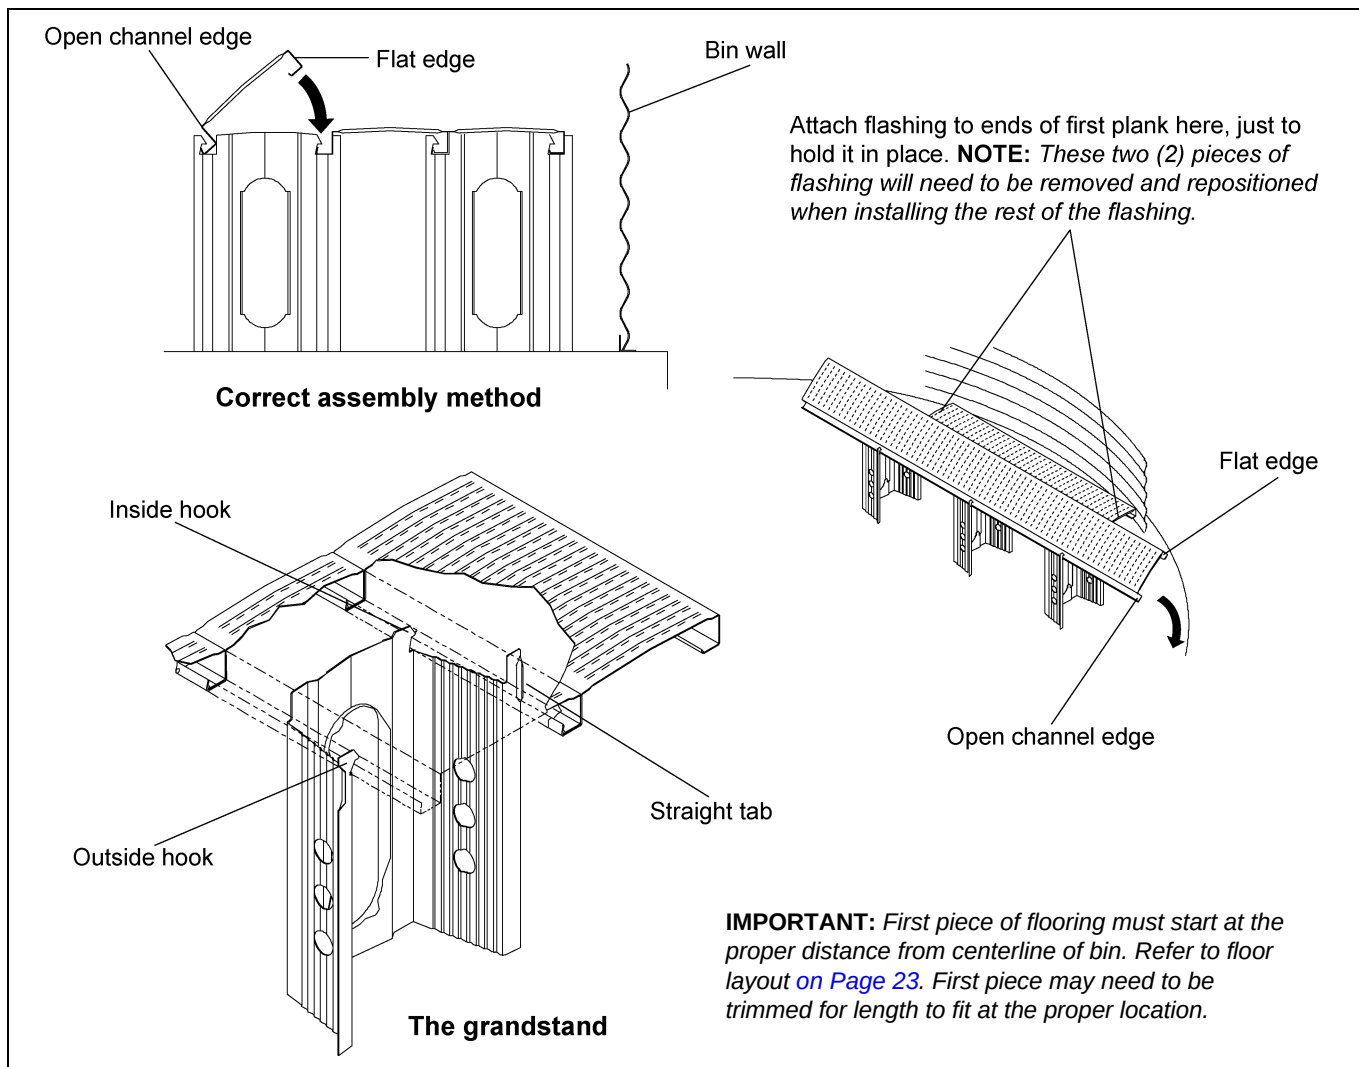
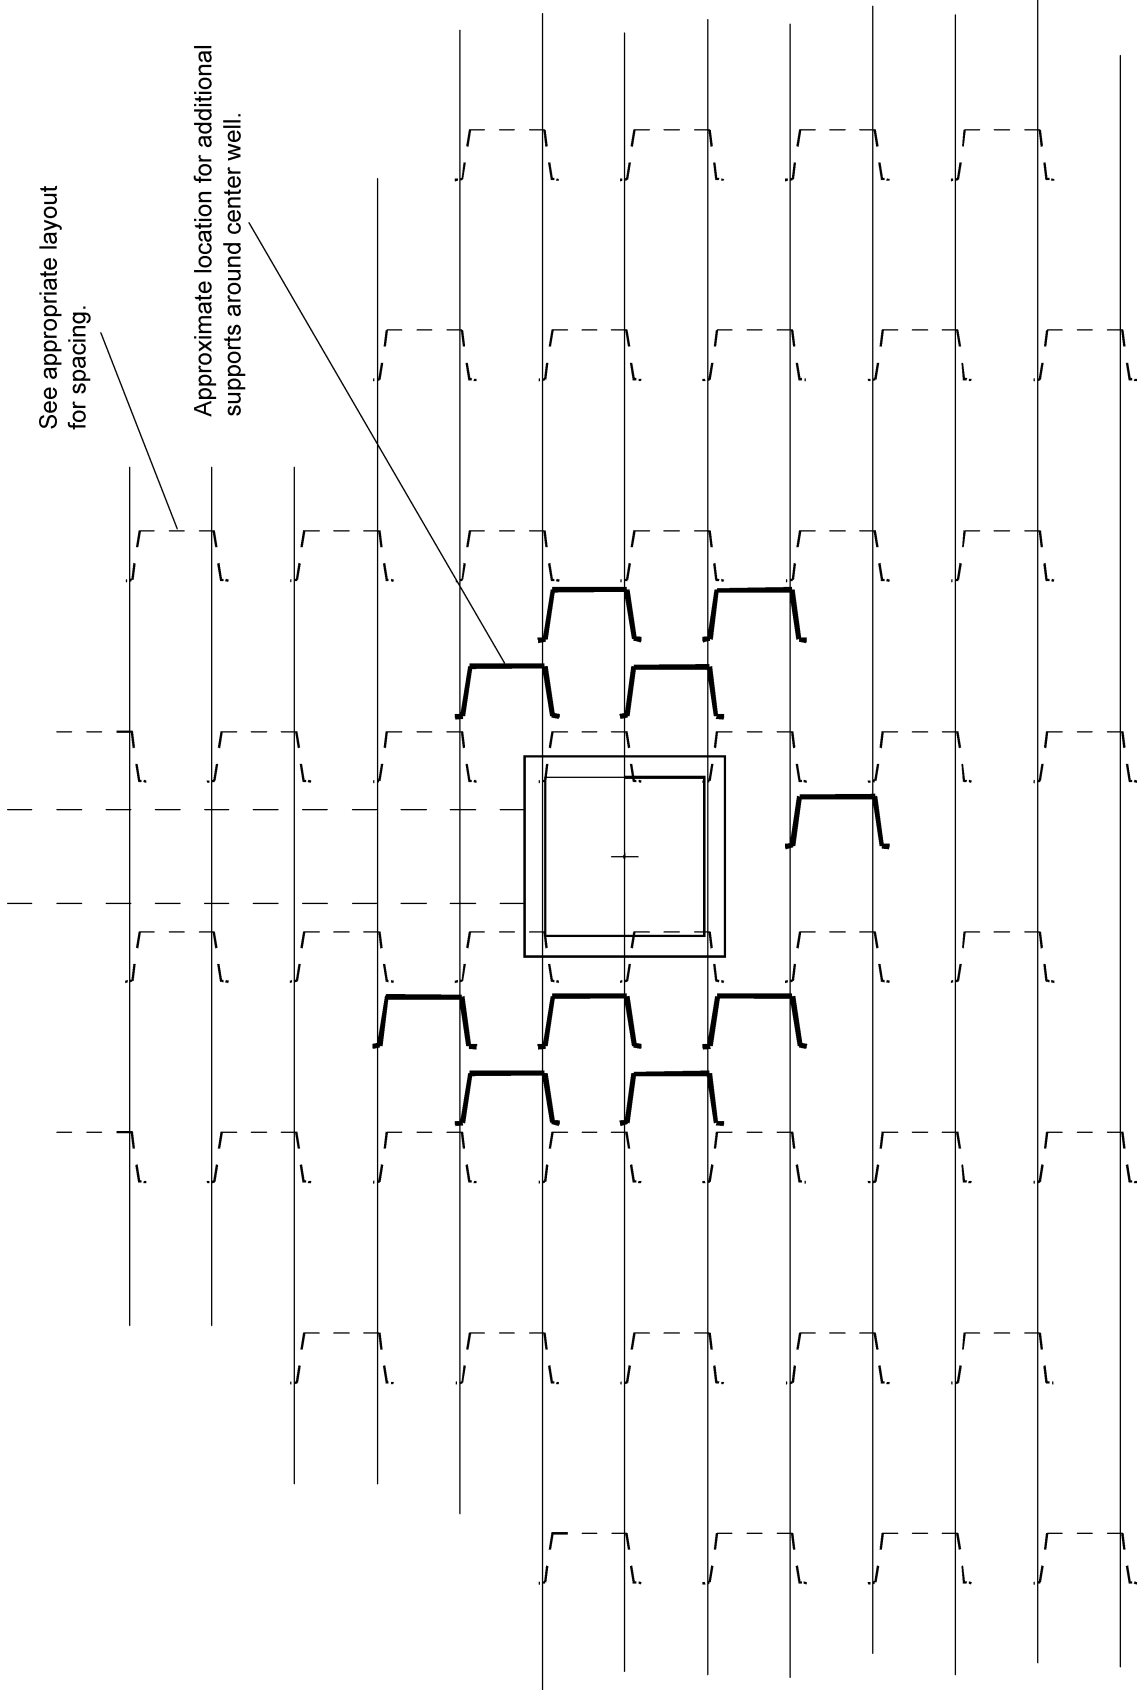

Figure 4C
Figure 6A
5. **POSITION THE NEXT ROW OF SUPPORTS ACCORDING TO THE CHALK LINES** and support layout. The straight tab should “snap” under the first (previous) floor piece. After the supports in the row are correctly positioned, install the next floor piece by hooking the open channel edge under the outside hooks of the floor supports. Push down sharply on the edge of the floor piece until it snaps into the previous floor piece. (See Figure 4C.) Continue this process for the rest of the floor cutting planks for center and intermediate wells as needed. See Figure 6A on Page 19 for center well support locations.